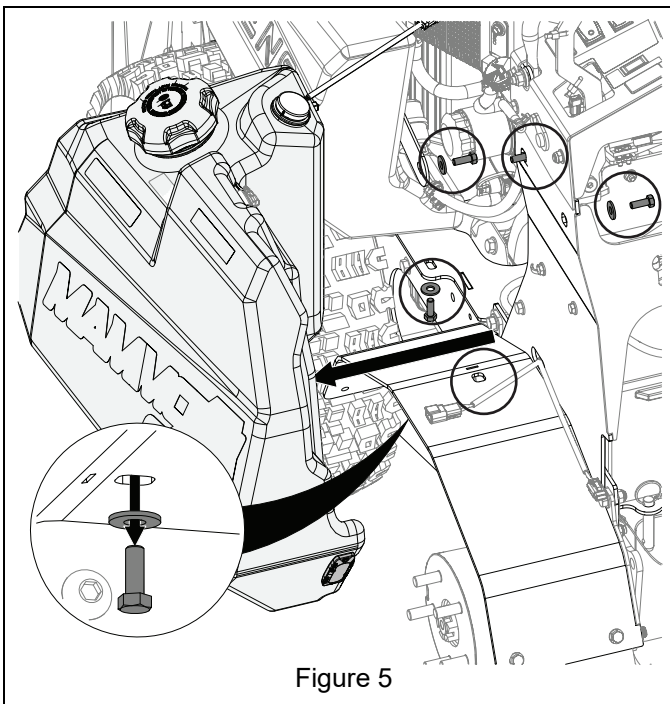

Figure 5
- Disconnect fuel tank sender connector. See Figure 5.